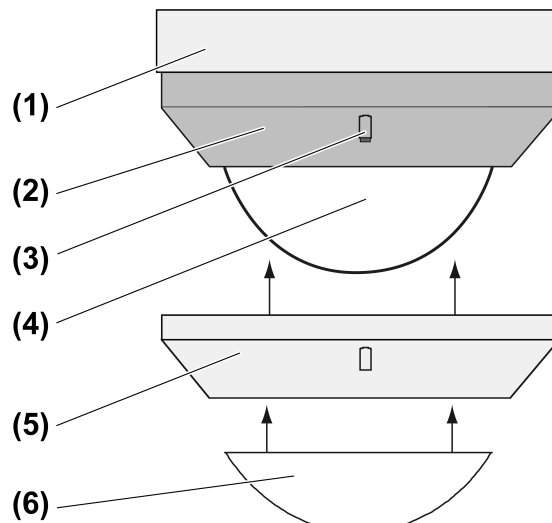

Figure 1
Behind the sensor window (4) are a red and a blue LED (Figure 1) for indicating different states of operation.